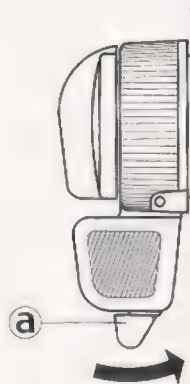
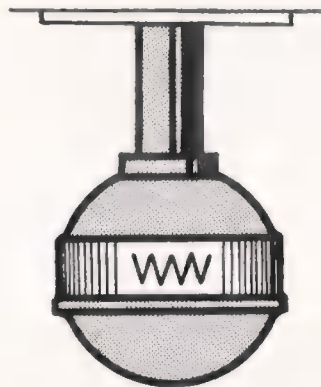
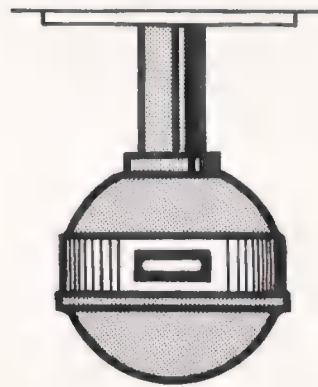

Fig. 29
Fig. 31
Fig. 32
4. The stitch length lever 15 (Fig. 28) has two marks on its ball-shaped end, the zig-zag mark Fig. 31 and the buttonhole mark Fig. 32.
Push lever a (Fig. 28) forwards into the position in Fig. 29. The zig-zag lever 12a can now be moved as desired beyond the stops I and II from 0 to 4. Move lever 13 into the vertical position. Again press the stitch length lever 15 towards the machine, the ball-shaped end turned to the left until the zig-zag mark (Fig. 31) until the zig-zag mark shows on top.
2. the stitch length lever, i. e. its ball-shaped end, shows the zigzag mark (Fig. 31);